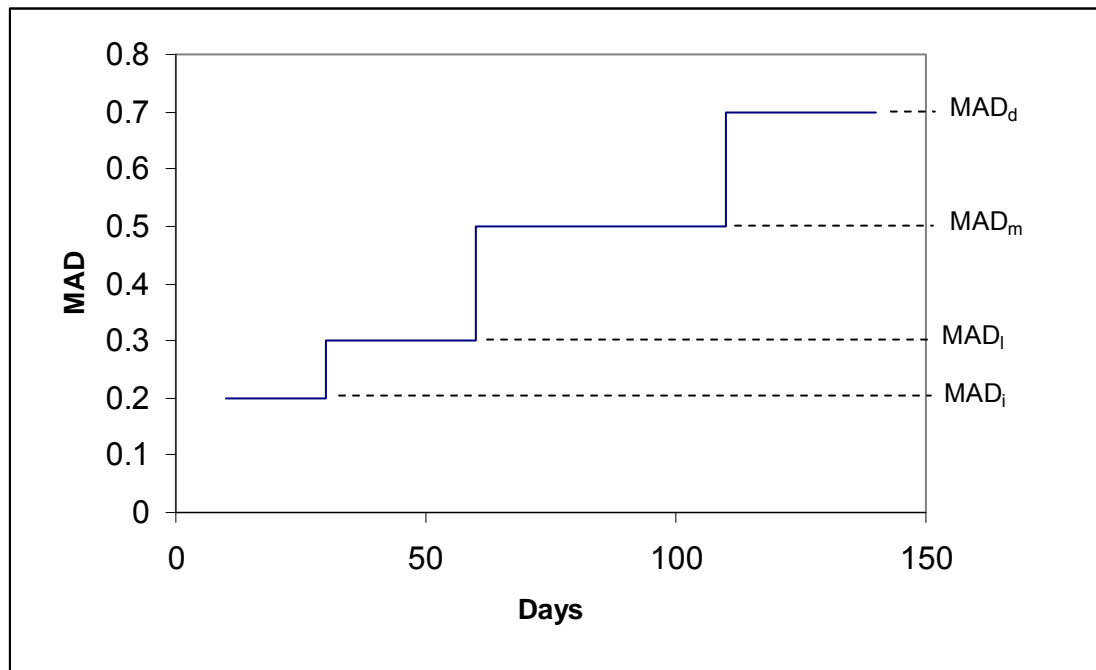

Figure 4. Example of time varying MAD as specified in the Growth Stage Table.
5. Management Allowable Depletion (MAD) - management allowable depletion (dimensionless) is the fraction of the plant available water holding capacity that the crop can utilize before irrigation is requested. Available water capacity is defined as the difference between the water content at field capacity and the water content at permanent wilting point. For example, a MAD value of 0.4 means that plants can transpire 40% of the plant available water holding capacity before an irrigation is requested. Values of MAD are specified for each growth stage (Figure 4, Table 1). Representative values of the depletion fraction, or MAD, can be found in Table 22 of FAO 56.